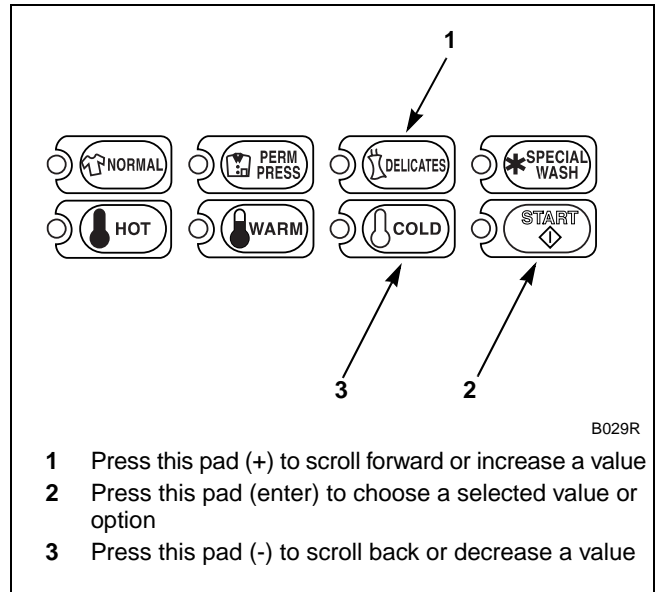

Figure 152
5. Press the DELICATES (+) or the COLD (-) keypad to increase or decrease the current number of minutes displayed in the VFD to the desired number of minutes. Refer to *Figure 152*.
**NOTE: The Permanent Press Rinse Final Fill/Tumble Time can be set from zero (0) to 15 minutes.**